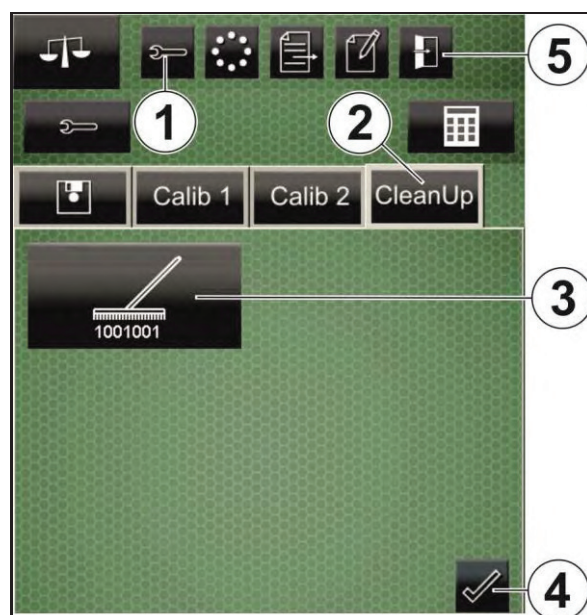

Fig. 196
6. Press the "Confirm" key (Fig. 196/4) to finish the procedure.
7. Press the "Exit menu" key (Fig. 196/5) to call up the basic configuration of the terminal.